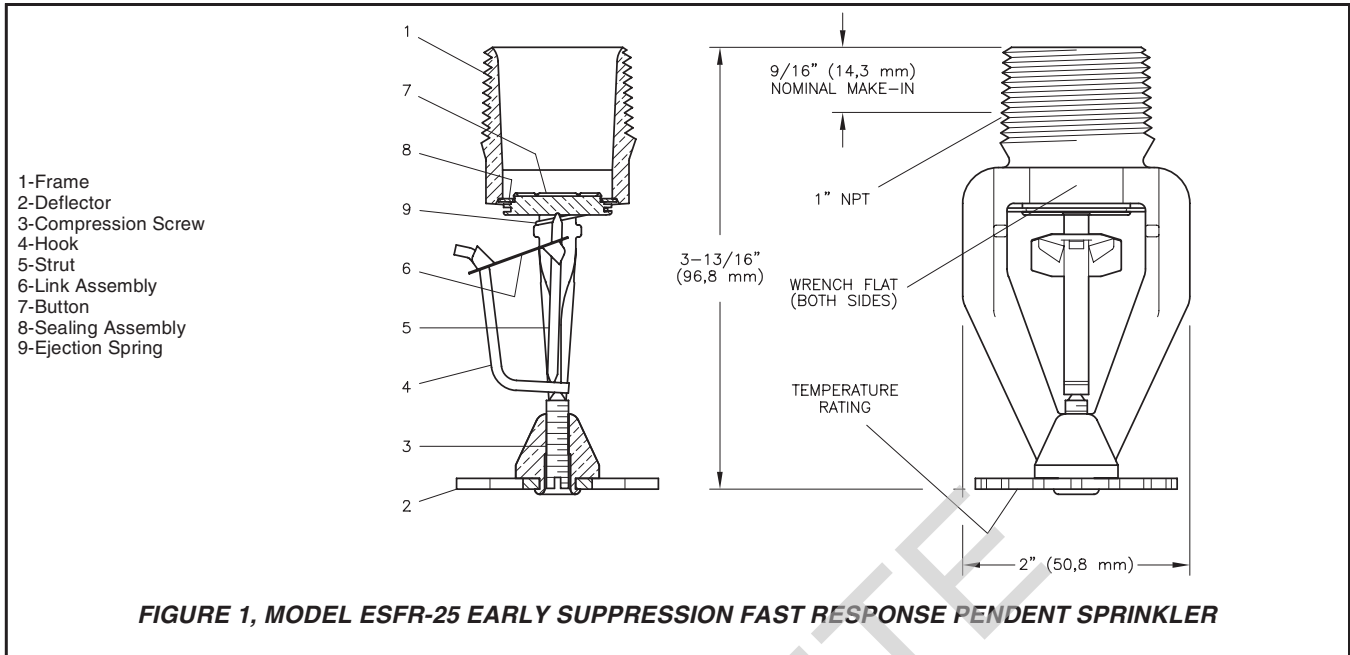

FIGURE 1, MODEL ESFR-25 EARLY SUPPRESSION FAST RESPONSE PENDENT SPRINKLER
The Model ESFR-25 Sprinklers (Ref. Figure 1) are "Early Suppression Fast Response Sprinklers" having a nominal K-factor of 25.2. They are suppression mode sprinklers, and their use is especially advantageous as a means of eliminating the use of in-rack sprinklers, when protecting high-piled storage.
**Step 4.** After installation, inspect the Link Assembly of each ESFR-25 Sprinkler for damage. In particular, verify that the Link Assembly and Hook are positioned as illustrated in Figure 1, and that the Link Assembly has not been bent, creased, or forced out of its normal position in any way.